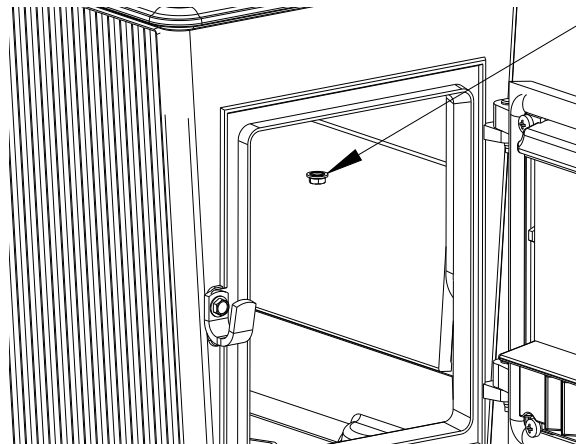

Fig. 6.3. Remove the cook plate nut located inside the front door opening.
The combustor components are accessed by removal of the cook plate which is secured to the top plate by one M6 flange nut, figure. 6.3.
1. Use the 10mm socket wrench with extension to remove the M6 flange nut located behind the exhaust diverter inside the stove as in figure 6.3.